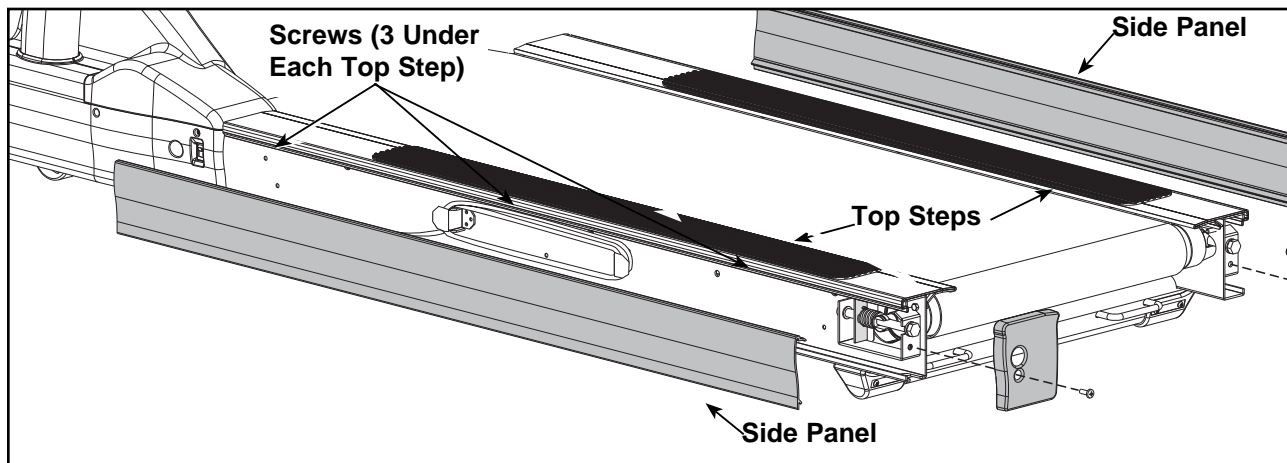

Figure 5
- A. Pull each side panel out and off the treadmill. See Figure 5.
- A. Using a Phillips screwdriver, remove the three screws that hold one of the top steps in place. Repeat this step for the other side. See Figure 5.
- B. Grasp each top step and slide it out and off the treadmill. See Figure 5.
- A. Place each top step in position. See Figure 5.
- B. Using a Phillips screwdriver, secure the three screws that hold each top step in place. See Figure 5.
- A. Place each side panel into position on the bottom edge and use your hand to push all along the top edge of the side panel to snap it in place. See Figure 5.